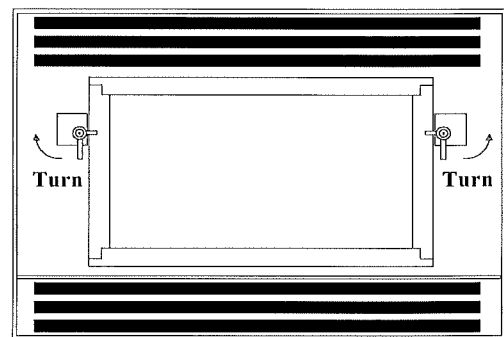

**FIGURE 4. OUTER GLASS DOOR**
To remove the outer glass panel lift upwards and outwards. This will release the panel from the mounting pins. See **Figure 4**.
- Check 2 amp fuse on top of junction box located in the burner control compartment. (see figure 4) If fuse is ok, and fans still do not operate, then we recommend you call a qualified contractor to locate the electrical fault.